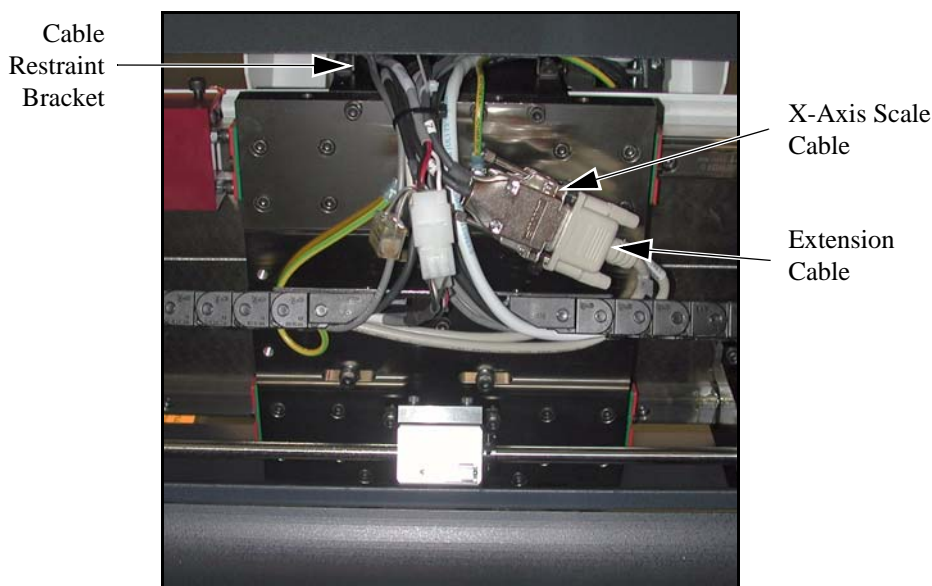

Figure 9-9 Disconnecting the X-Axis Scale Reader Head Cable from the Extension Cable
3. Open the rear bridge cover and disconnect the X-axis scale reader head cable from the extension cable (see Figure 9-9). Both cables are clearly labeled.